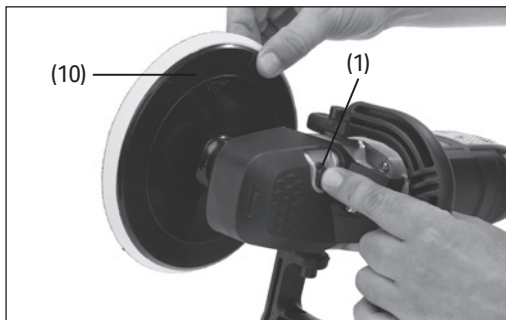

Fig.4
- The side handle (14) can be fitted instead of the D Handle.
6.3 Fitting the Backing Pad 'D' (Fig.4)